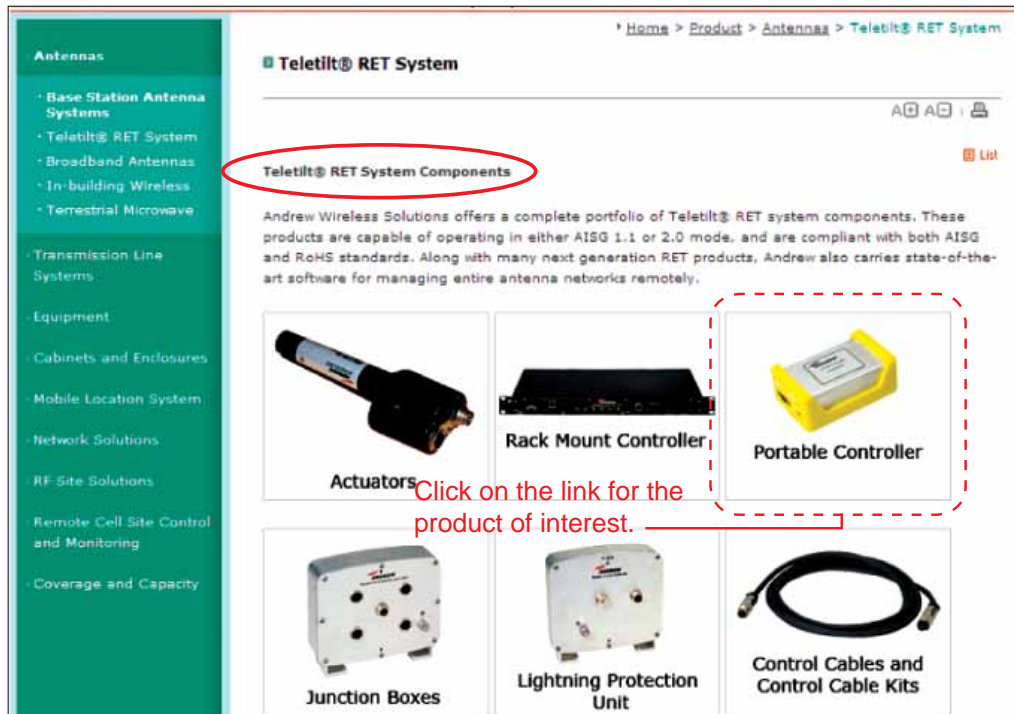

Figure 3-2. Selecting the Portable Controller Link to Access Installation Instructions.
3. Click on the link for the product of interest (Figure 3-2).